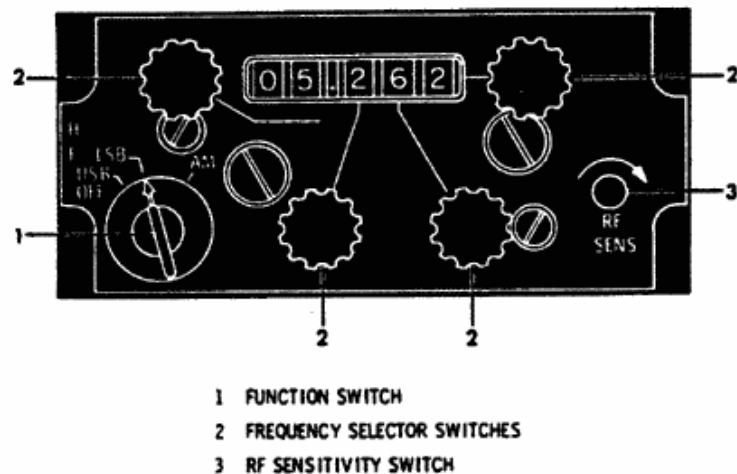

Figure 1-71
The 618-T HF radio is a long-range voice communications transceiver. The modes of transmission are single sideband (SSB) and amplitude modulation (AM). The frequency range is 2 to 30 MHz, tunable in 1-KHz steps. Because of the nature of the antenna (comprising the pitot boom and the insulated forward portion of the aircraft nose) it is not advisable to transmit at frequencies below 4 MHz. The equipment includes a transceiver and semiautomatic antenna coupler/coupler control, mounted in the radio bay in the right chine. The HF radio control panel is on the RSO's left console (Figure 1-71). Electrical power is supplied by the essential ac and essential dc buses.